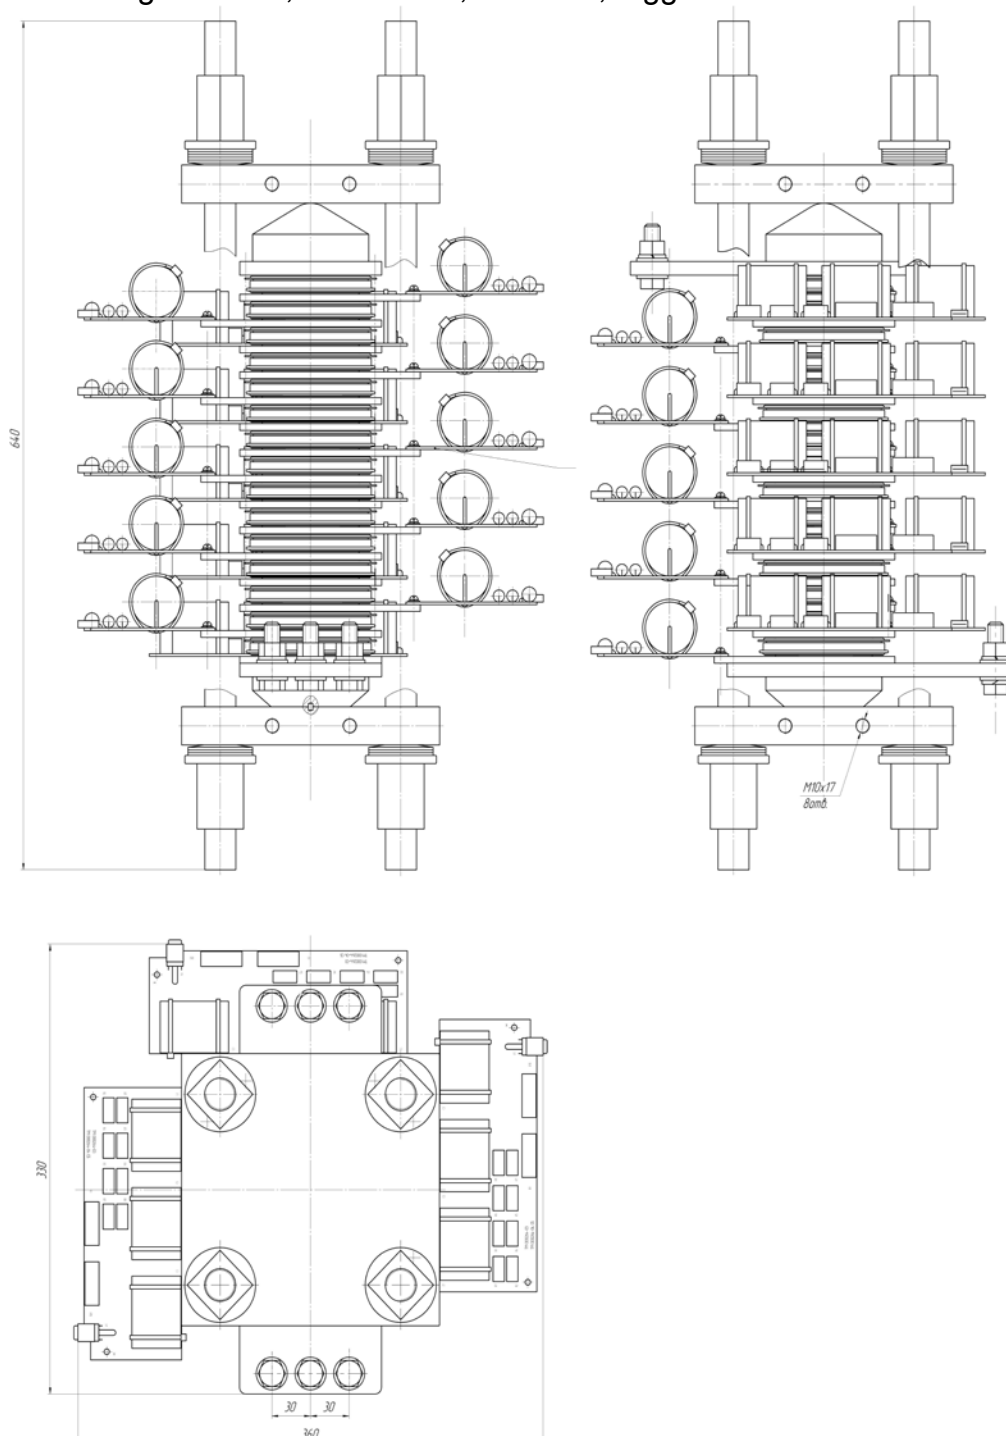

Fig. 3. RSD-DS design for pulse current up to 300 kA (design variant 2)
1.3.3 Fig. 3 presents high voltage RSD-DS design example of design variant 2, for commutation of high current pulses in energy storage devices, for indoor and outdoor operation by temperature from -40°C up to $+50^{\circ}\text{C}$ and relative humidity up to 98% ($T = 40^{\circ}\text{C}$).